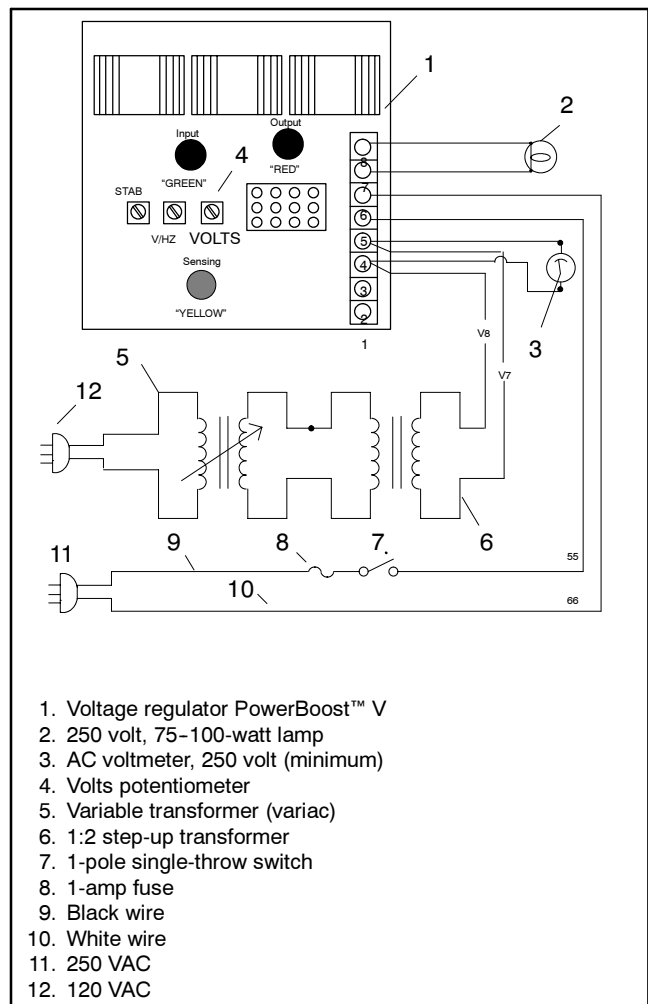

Figure 5-21 Voltage Regulator A-Board
1. Connect components as shown in Figure 5-21. If a 200-240-volt power source is available, the step-up transformer is not required.
2. If plug (item 10) is 250 volts, use 250 volt lamp. If plug is 120 volts, use 120 volt lamp.